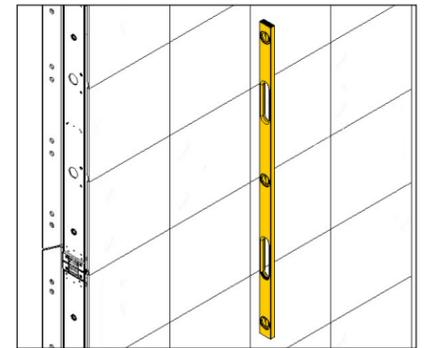

Figure 6: Ensure Display Faces Are Flush
7. Place a 4' level at both ends and the middle of the display seam (when possible) to ensure the display faces are flush, plumb, and flat to all adjacent sections. Refer to **Figure 6**. If they are no longer aligned, loosen the hardware and repeat **Steps 4-6**.
- Use a 4' level to ensure the display faces are flush and flat to all adjacent sections. Refer to **Figure 6**.
- Use a 4' level (when possible) to ensure the display faces are flush and flat to all adjacent sections. Refer to **Figure 6**.